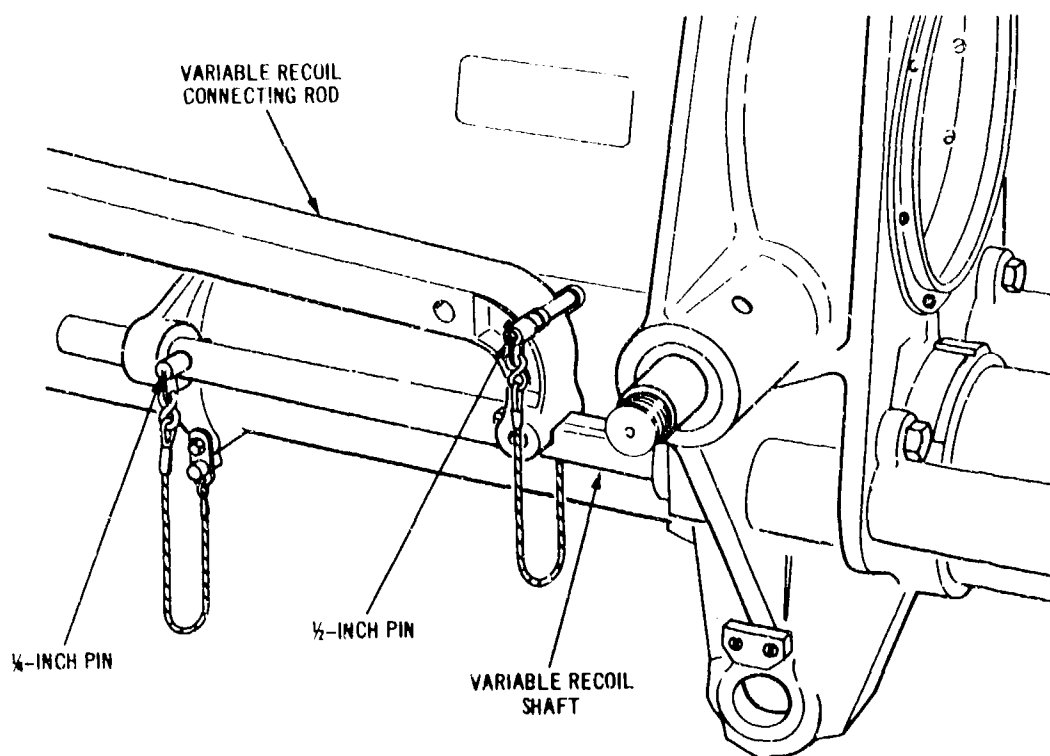

Figure 5-26. Positioning pin in variable recoil shaft for firing M454 projectile.
- (1) Bring the howitzer to zero elevation.
- (2) Remove the  $\frac{1}{4}$ -inch pin (fig 5-26) from its stowage bracket below the variable recoil shaft and install it in the drilled hole near the rear (breech) end of the variable recoil shaft.
- (3) Disconnect the variable recoil connecting rod from the variable recoil shaft by removing the  $\frac{1}{2}$ -inch pin from the front (muzzle) end of the connecting rod.
- (4) Install the  $\frac{1}{2}$ -inch pin in the stowage bracket on the variable recoil connecting rod.